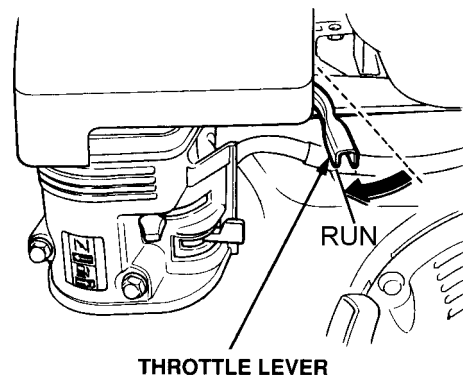

Figure 19. Throttle Lever (Run)
10. To begin compacting, place the throttle lever (Figure 19) in the "RUN" position.